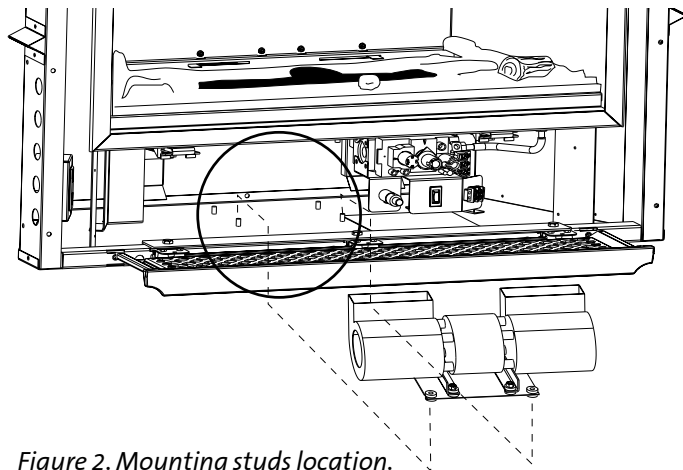

Figure 2. Mounting studs location.
2. Engage the Blower unit base with the four studs at the rear of the fireplace cabinet floor. See Fig. 2.